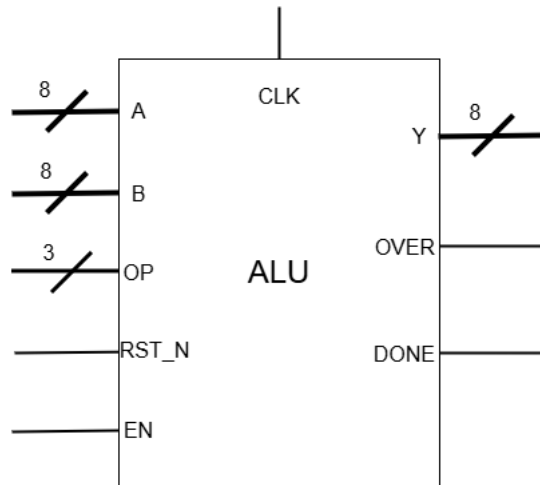

Figure 1: ALU Inputs and Outputs
This 8 bit ALU accepts two 8 bit operands A and B, along with a 3 bit opcode (OP). The state of the ALU is controlled by an active high enable pin (EN), and can be reset using the active low reset pin (RST_N). As this ALU supports sequential operations which may take more than one clock cycle, the CLK input must be connected to a clock signal. The ALU provides one 8 bit result output (Y) an overflow flag (OVER) and a done flag (DONE). A table of the ALU's supported operations is given in table 1. A diagram of the inputs and outputs is shown in figure 1. A description of the function of each bus/pin is given in table 2.